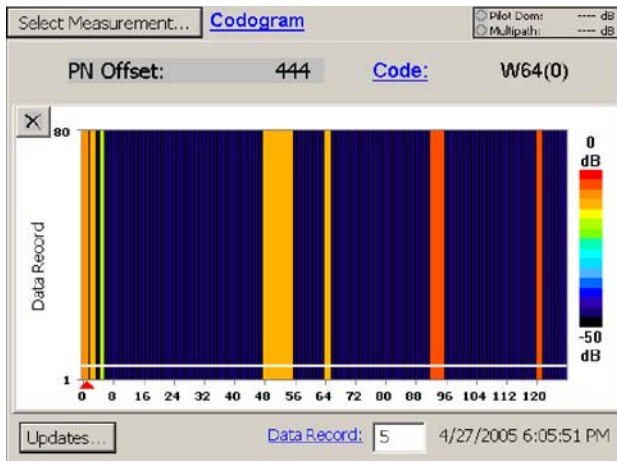

Figure 3-57: cdma2000 Codogram display
4. Tap **Codogram**. See Figure 3-57.